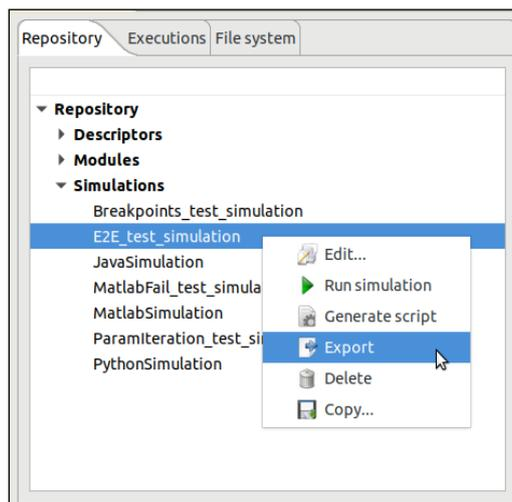

Figure 4-117: Export from the repository menu
1. From the **Repository** menu. In this case, we need to navigate from the "Repository" menu down to the simulation that the user wishes to export. Next, right-clicking over it; the "Export" option appears for selection. This is illustrated in Figure 4-117 below.